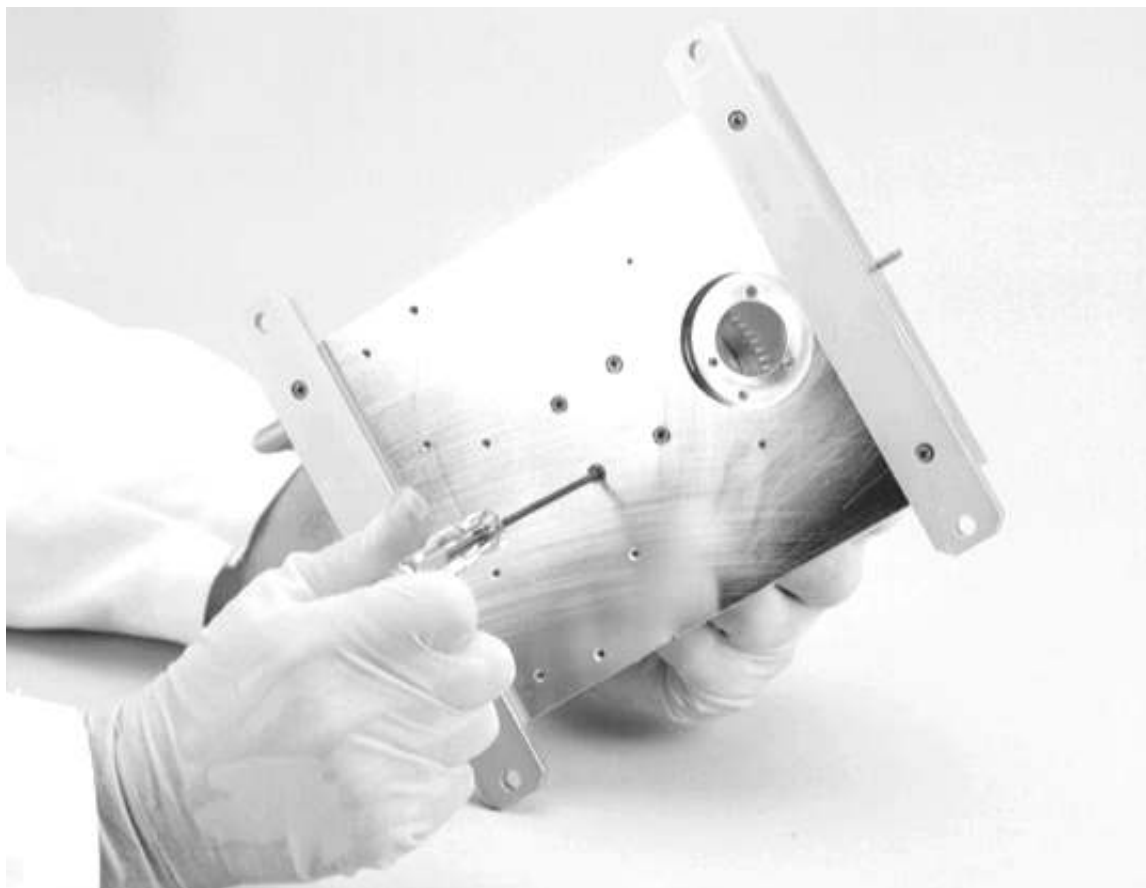

Figure 5-13. Detaching the pivot plate shaft from the base plate
- Step 25. Holding the remainder of the source as shown in Figure 5-13, remove the four 6-32 × 3/8-in. screws that secure the pivot shaft to the base plate. Then you can remove the bearing housing assembly (which contains the pivot shaft) from the source.